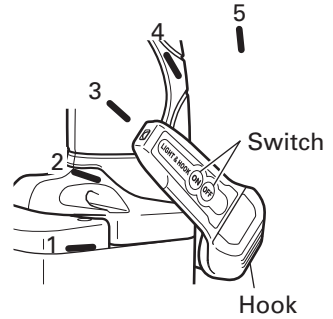

Fig. 9
(2) The direction of the light can be adjusted within the range of hook positions 1 – 5. (Fig. 9)